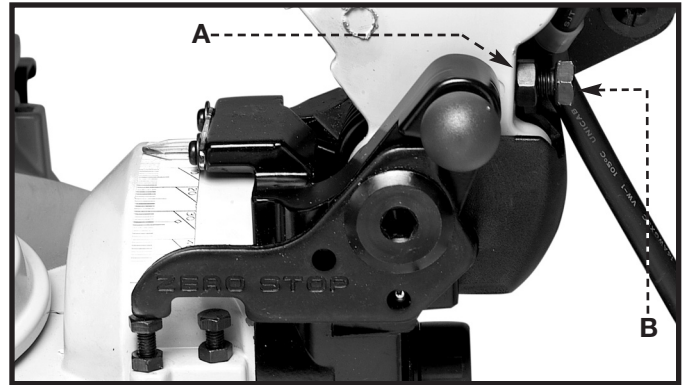

Fig. 27
Loosen the nut (A) Fig. 27 and turn the screw (B) (clockwise to increase or counterclockwise to decrease the spring tension). After adjusting, tighten the nut (A).